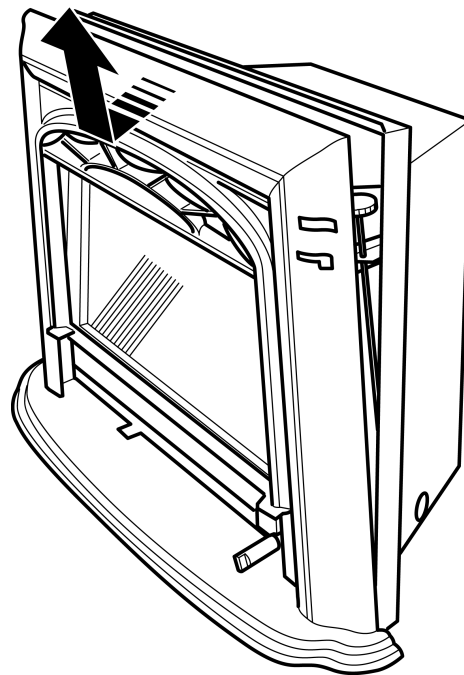

Figure 4. Fascia Removal on Cast Iron and Standard fascia.
4. Remove the Fascia by gentle pulling the top of the fascia forward. Two retaining clips hold the top of the fascia. Once clear of these the fascia can be lifted clear of the lower bottom fascia brackets (See figure 4)
2. Remove the Fascia by gentle pulling the top of the fascia forward. Two retaining clips hold the top of the fascia. Once clear of these the fascia can be lifted clear of the lower bottom fascia brackets (See figure 4).